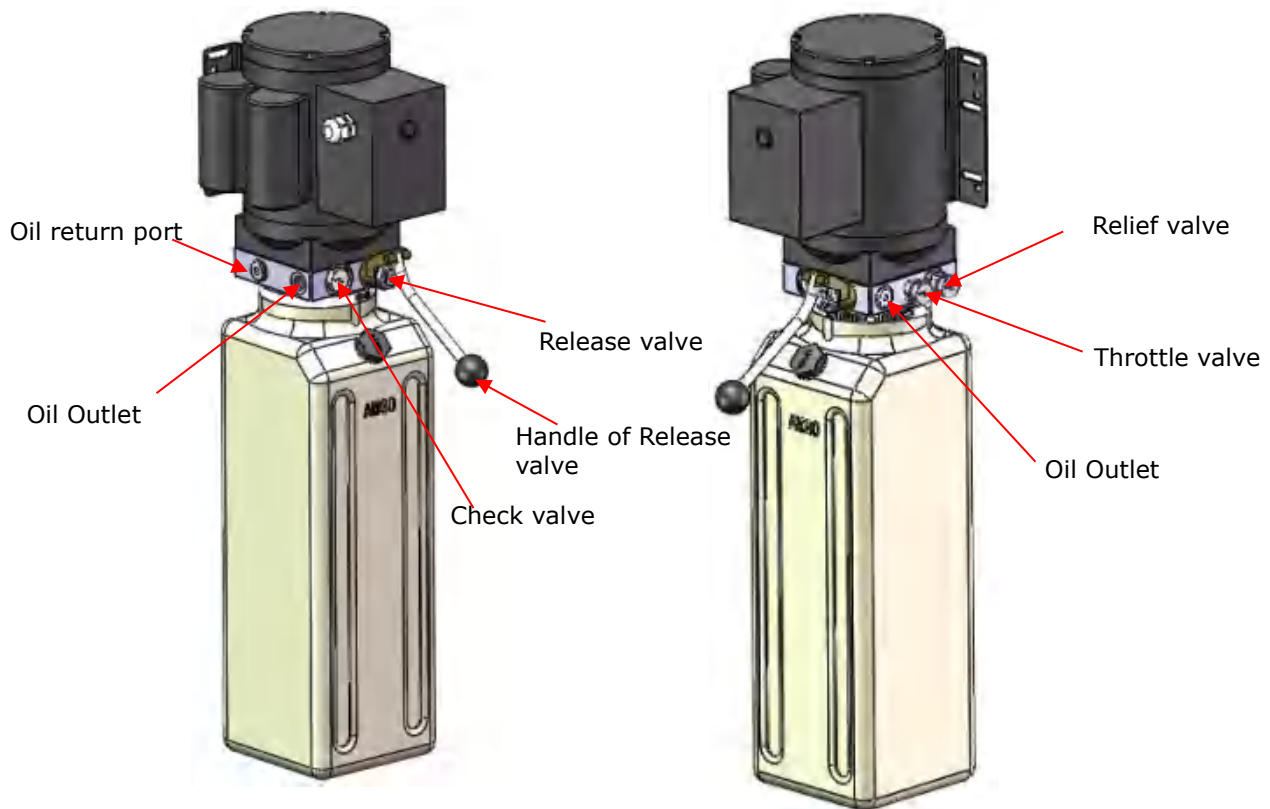

Fig. 50
3. Illustration of hydraulic valve for hydraulic power unit (See Fig. 50)